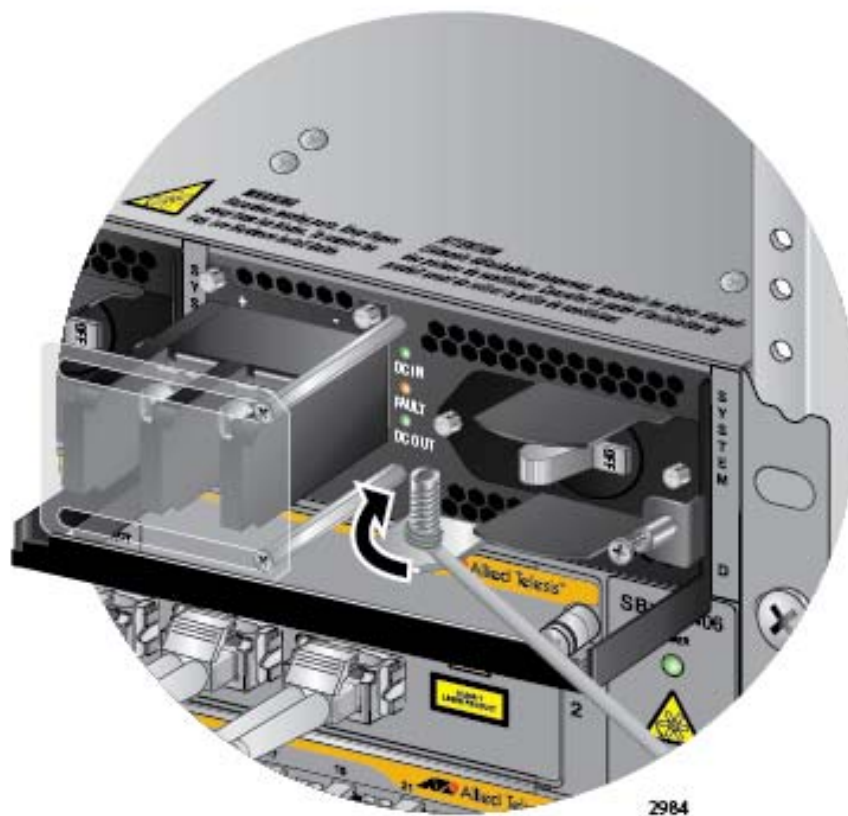

Figure 138. Attaching the Bare Grounding Wire to the Grounding Post
3. Wrap the grounding wire clockwise around the base of the grounding post, as shown in Figure 138.